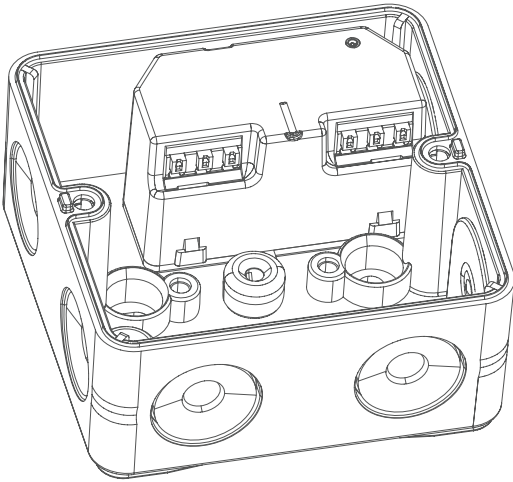

Figure 3
- Connecting terminal 2 (C): "Up"
- Connecting terminal 1 (D): "Down"
- Connect the phase conductor to connecting terminal L (E)
- Connect the neutral conductor to connecting terminal N (F)
- Connecting terminal S1 (G): "Down"
- Connecting terminal S2 (H): "Up"
- Fix the actuator to an appropriate surface-mounting box (e.g. Abox 025 or Abox 040) (*see figure 3*)